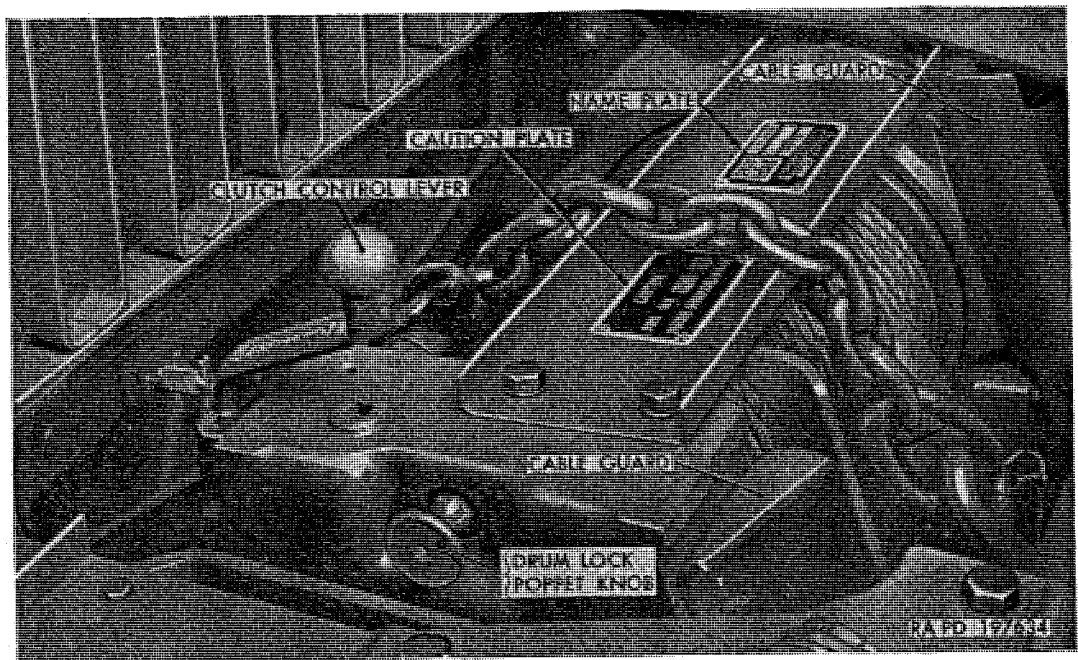

Figure 43. Controls at winch.
- (1) *Clutch control lever.* Hand-operated clutch control lever (fig. 43), located at right side of winch, is used to engage or disengage winch drum from power-take-off drive shaft. On late vehicles, the lever handle is marked CLUTCH IN with an arrow pointing away from winch, and OUT with an arrow pointing toward winch. These markings indicate direction to move handle to place drum in engagement or out
- (2) *Drum lock poppet knob.* Knob (fig. 43) on right side of winch frame permits locking drum to prevent unwinding of cable when underway. To lock or engage drum, the knob should be completely in to permit the poppet to engage one of several holes in the flange of drum. To disengage drum to permit winch operation, pull out knob and turn one-quarter turn.
- (3) *Automatic controls.* An automatic safety brake in winch mechanism will sustain the load while power-take-off lever
- (1) Place power-take-off lever (in cab) into CENTRAL NEUTRAL position.
- (2) Push clutch control lever at winch (fig. 43) toward winch (or in direction of arrow marked OUT on lever handle). Push lever against stop on some vehicles. Winch cannot be operated by power-take-off with lever in this position.
- (3) Make sure that drum lock poppet knob at winch (fig. 43) is in locked position (par. 48d(2)) to engage a hole in flange of drum. Cable will not unwind in this position.
- (4) Insert cable chain and hook through one front towing shackle; then place chain hook in opposite front towing shackle.
- (a) Pull out drum lock poppet knob (fig. 43); then rotate knob one-quarter turn to unlocked position.
- (b) Pull clutch control lever (fig. 43) as far as possible (in direction of arrow marked IN on lever handle) away from winch drum to engaged position.
- (2) *Winching out vehicle with driving wheel assistance.*
- (a) At winch, pull out drum lock poppet knob (fig. 43); then rotate one-quarter turn to unlocked position. Pull clutch control lever as far as possible (in direction of arrow marked IN) away from winch drum to engaged position.
- (a) At the winch (fig. 43), pull out drum lock poppet knob, and then rotate one-quarter turn to unlocked position. Pull clutch lever away from winch drum (in direction of arrow marked IN on lever handle) to engaged position. Attach cable hook to a suitable anchor to provide tension on cable while winding.
- (b) Push clutch control lever (fig. 43) as far as possible toward winch (or in direction of arrow on lever handle marked OUT). Pull out drum lock poppet knob and turn one-quarter turn to unlocked position.
- (d) At winch, wind in cable by means of clutch control lever (fig. 43). Pull lever away from winch (or in direction of arrow on lever handle marked IN) to engage winch drum. Push lever toward winch (or in direction of arrow on lever handle marked OUT) to disengage winch drum.